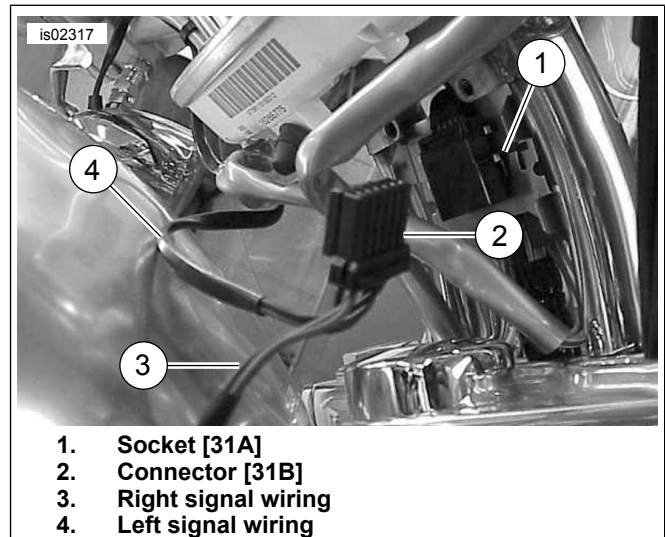

Figure 7. Remove Connector and Turn Signal Wiring (2002-2003 models)
4. See Figure 7(**2002-2003 models**). Locate turn signal connector [31B] and disconnect from socket [31A]. Note left and right turn signal wire locations. Follow instructions in Service Manual under Multilock Electrical Connectors (Socket Terminal Removal/Installation) and remove left and right front turn signal Socket Terminals from connector.